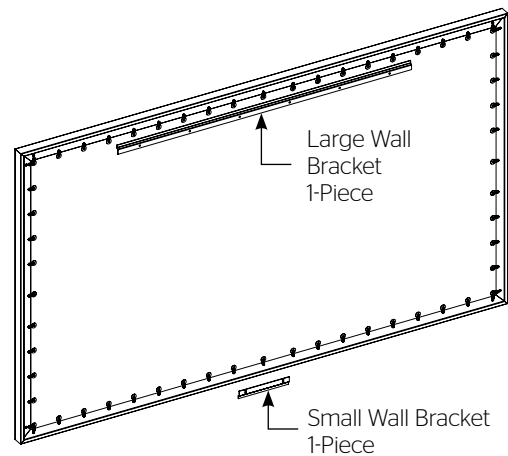

Figure 5
1. Secure the wall bracket to wall studs at the desired height. Make sure the bracket is level. The top of the frame will be $\frac{1}{8}$ " above the top of the wall bracket when mounted. You will need at least $\frac{5}{8}$ " clearance above the bracket to hang the screen. Figures 5, 6, and 7 show the proper orientation for the supplied wall brackets.